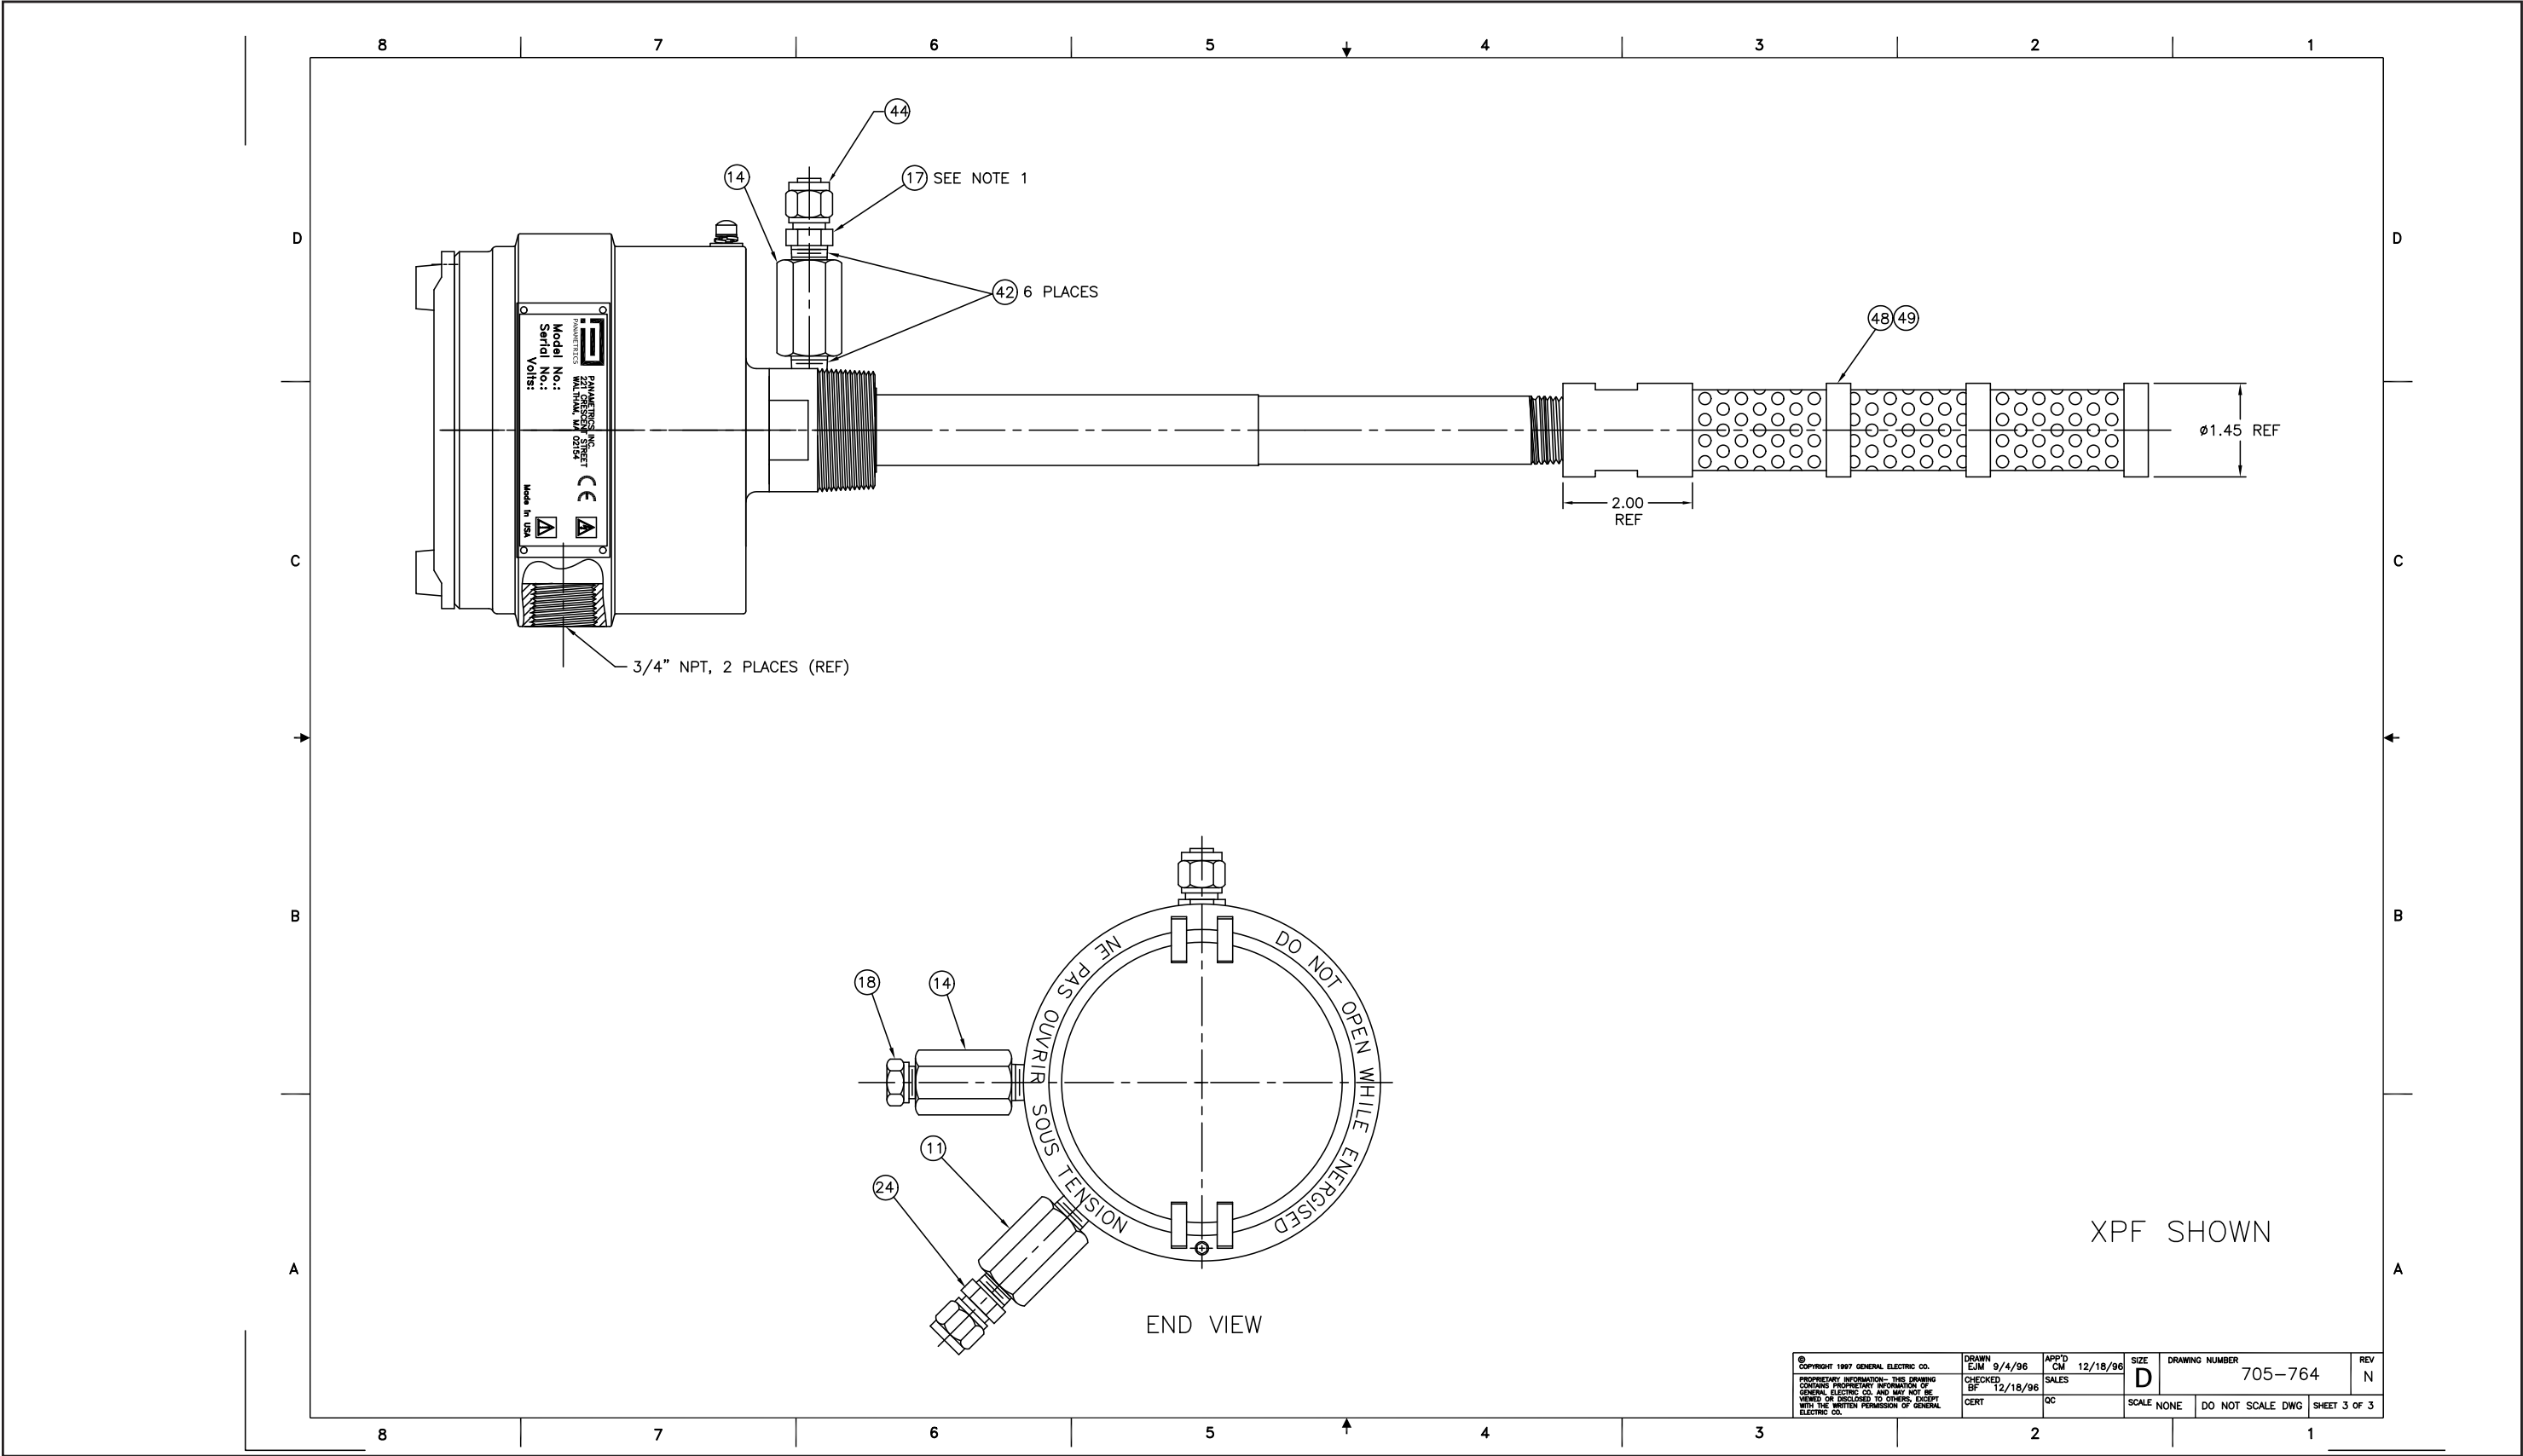

Figure 20: FGA 311 Explosion-Proof Assembly (Drawing 705-764_rev N, Sheet 3)
- Figure 20: FGA 311 Explosion-Proof Assembly (Drawing 705-764_rev N, Sheet 3) ----- 75